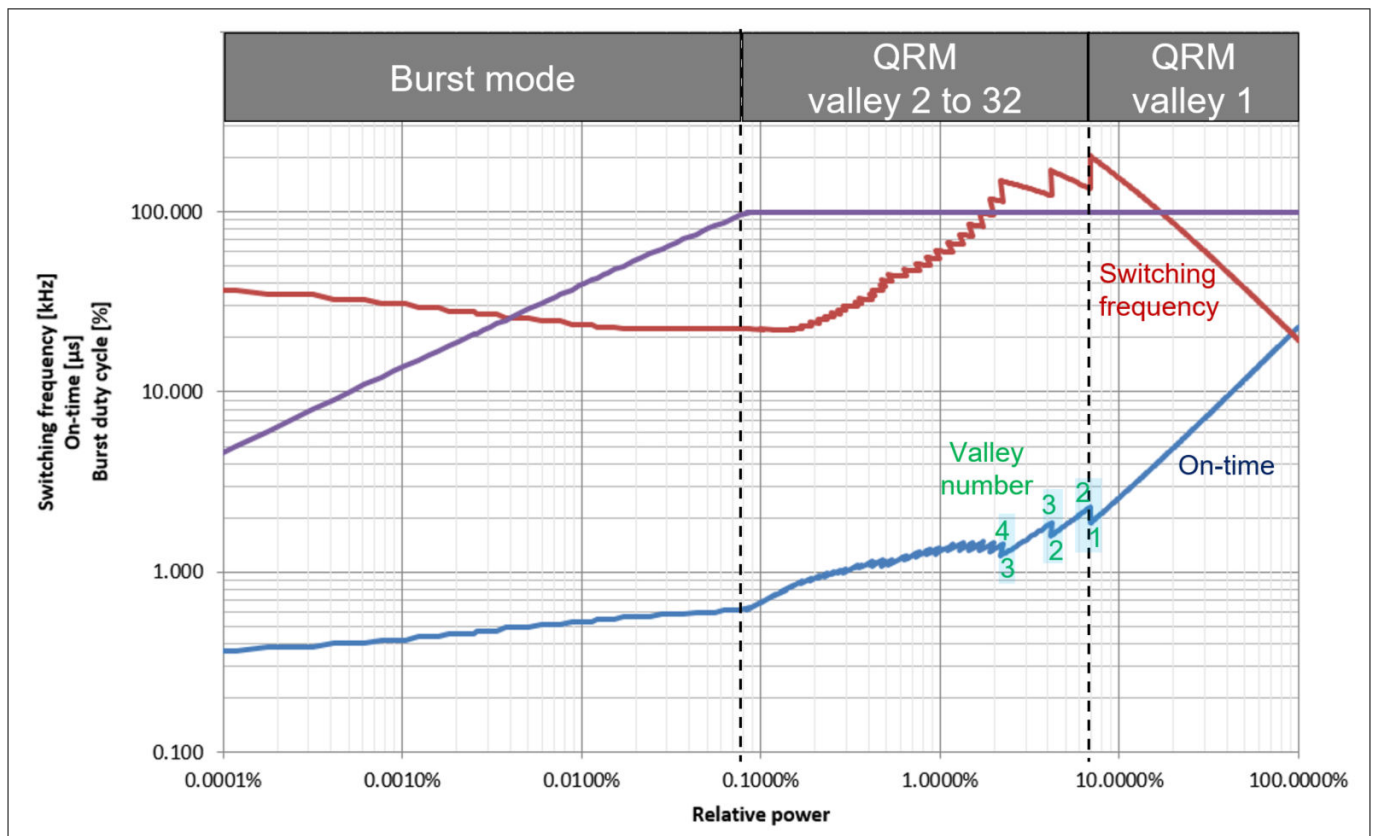

Figure 10 Exemplary switching characteristics versus relative power, with on-time compensation for valley changing
Figure 10 areas highlighted in blue show the on-time compensation effect (in zig-zag pattern) when, for example, the QRM valley number is increased from 1 to 2, from 2 to 3, and from 3 to 4. When the relative power is further decreased, the on-time compensation continues at higher valley changing position (in smaller zig-zag), until it reaches the maximum valley number of 32. To ensure the QRM switching frequency reduction stays above the audible range, the QRM off-time is limited to a maximum value of t_{off} (47 μs typ.).
- the system-dependent on-time compensation effect for valley number change (see Figure 10)